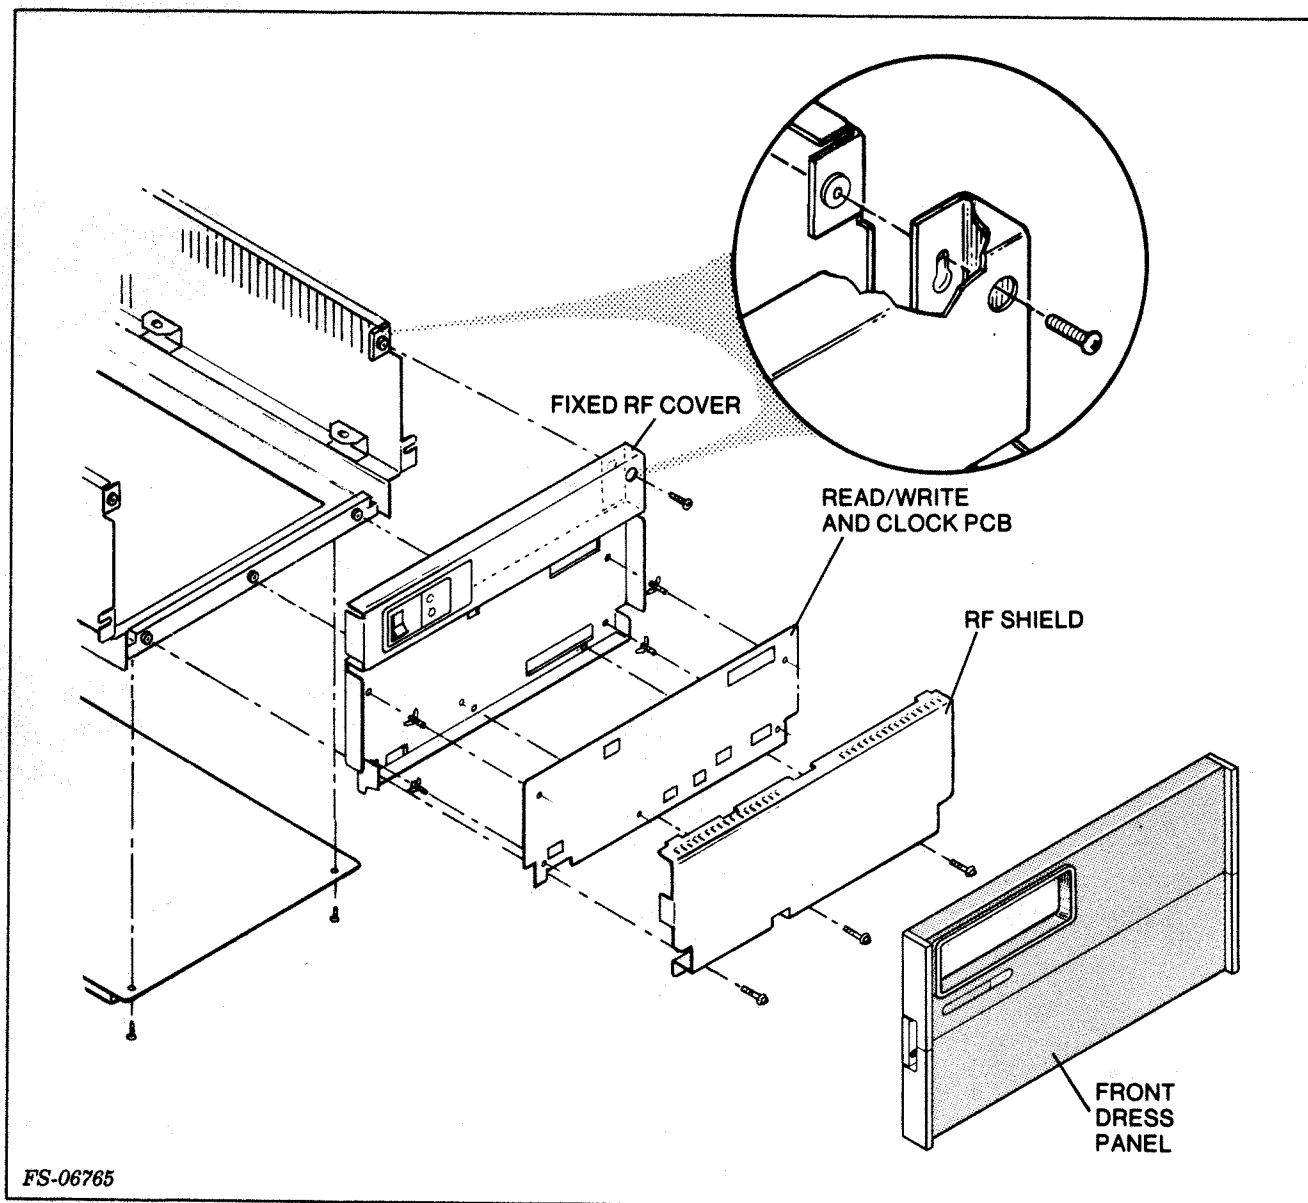

Figure 5-13. Front Covers and Dress Panel
1. Power down the drive and remove the front RF cover. See Figure 5-13.